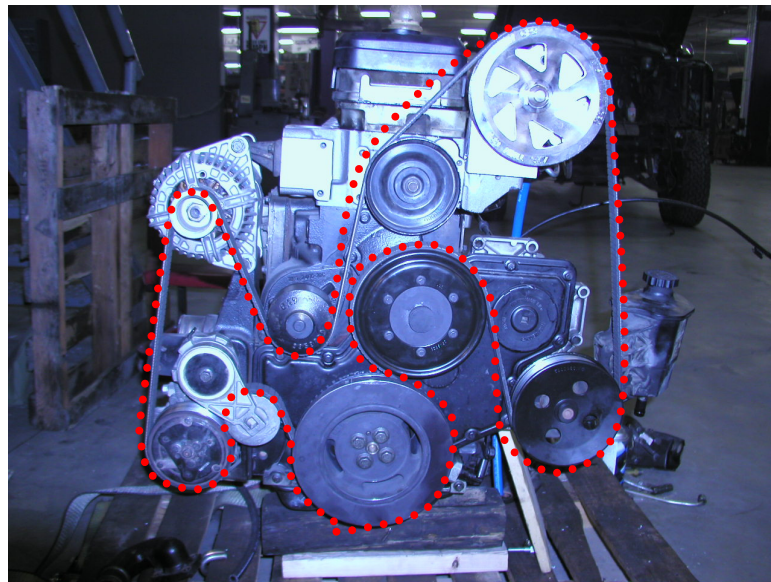

Figure 17: Belt Routing
26. Install the ATS accessory belt as shown in Figure 17.